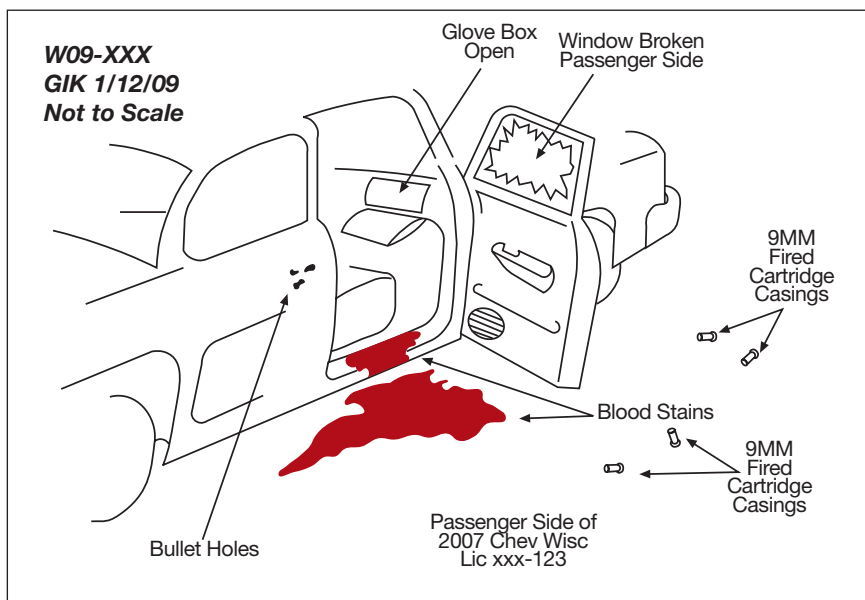

Fig. 4-4
- D.** Perspective sketch – depicts the scene or item of interest in three dimensions. It is the most difficult sketch to create and requires some artistic skill (see Figures 4-4 and 4-5).